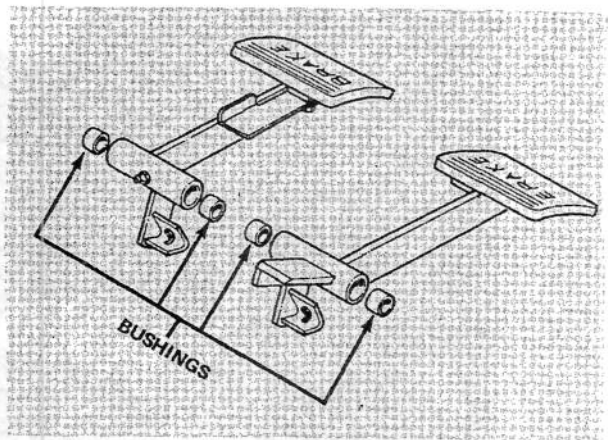

Figure 42
4. Using pin punch and hammer, drive both bushings out of brake pivot (Fig. 42). Clean inside of brake pivot to remove dirt and foreign matter.